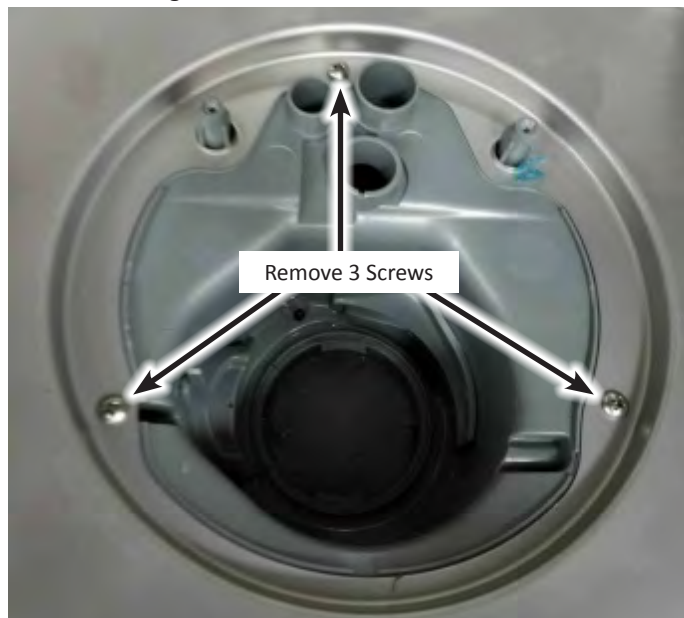

Figure 2
7. Remove the three (3) screws that attach the sump to the tub. See Figure 2.